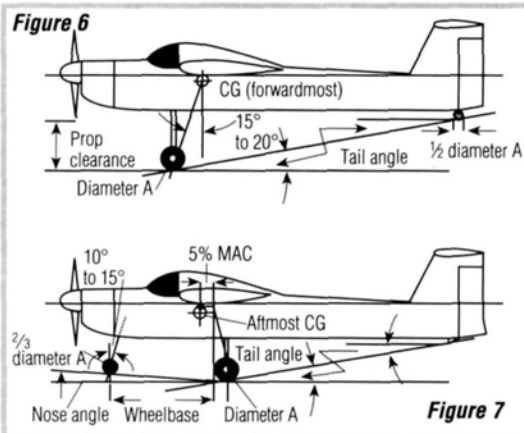

Figure 6. The geometry of tail-dragger landing-gear design. Figure 7. The geometry of tricycle landing-gear design.
Tail-dragger: the CG is behind the main wheels, and the tail-wheel is steerable (see Figure 6).
Figures 6 and 7 illustrate the procedure for positioning the main landing-gear wheels for both trikes and tail-draggers. Take the tail angle described in Part 1 and, on a side view of your design, draw a line that defines the tail-angle to the horizontal, originating either at the tailskid or at the tail wheel.
• **Tail-dragger.** Draw a line at 15 to 20 degrees from the CG, in front of the vertical, as in Figure 6. Where the two lines intersect, draw both horizontal and vertical lines. The main wheels' outside diameters should rest